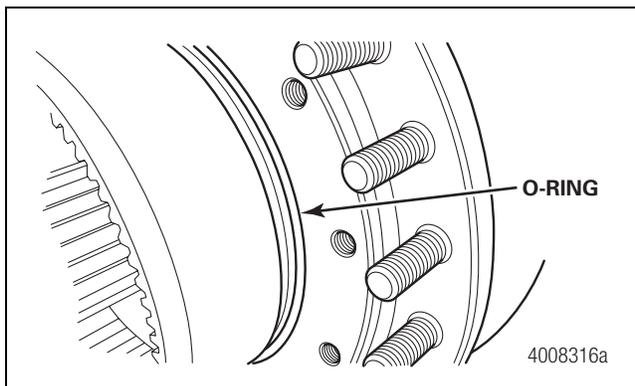

Figure 8.20
12. Install the outer O-ring seal onto the hub face. Figure 8.20.